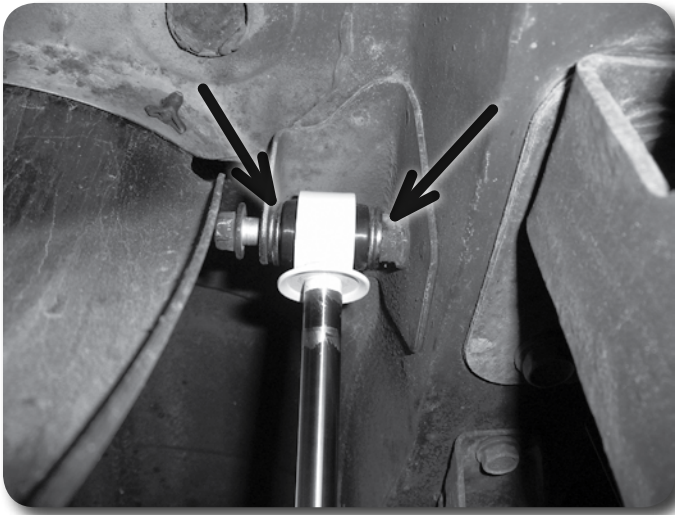

Figure 18
14. Locate the new rear shocks and install the provided bushings and sleeves in each end. Attach the BODY end of the shock to the axle mount and fasten with the factory bolt. Install the ROD end of the shock in the upper mount along with 2 1/2" washer placed on each side of the bushing. **Figure 18** Fasten with the factory bolt. Torque the shock bolts to 75 ft-lbs.